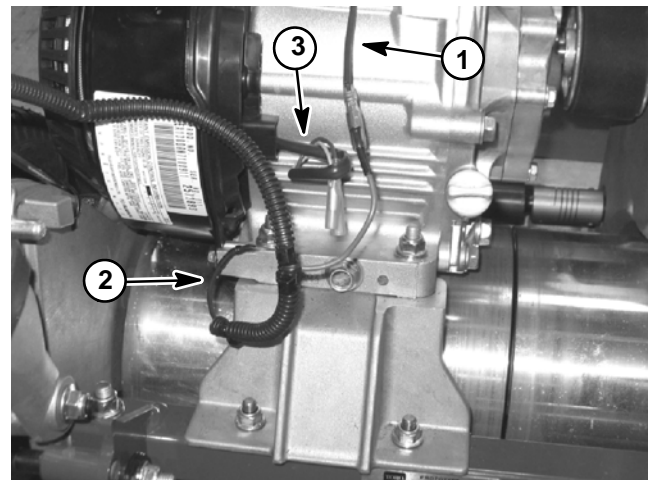

Figure 7
4. Disconnect electrical connections from engine (Fig. 7):
NOTE: When installing engine to engine base, do not install fastener in LH rear engine mounting hole. Ground wire connection is made at this location when engine base is attached to machine frame (Fig. 7).
A. Make sure that coupler sleeve (item 4) is placed on transmission input shaft coupler.
E. Install and finger tighten two (2) cap screws (item 13), hardened washers (item 6) and flange nuts (item 8) that secure rear of engine base to rear frame.
F. Align frame hole with front mounting boss of engine base. Install and finger tighten flange head screw (item 9) and hardened washer (item 10) that secure engine base to frame.
G. Position front of engine base to align engine and transmission couplers. Fully tighten flange head screw (item 9) to secure front of engine base.
6. Connect electrical connections to engine (Fig. 7):